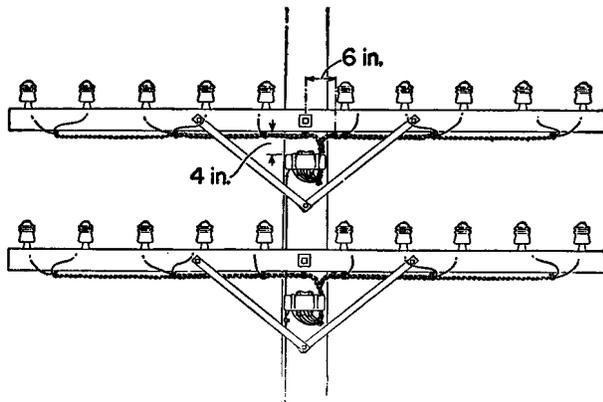

Fig. 5
2.05 When 83-A Protector Mountings are placed along the open wire route for additional cable protection make the bridling run as shown in Fig. 5.